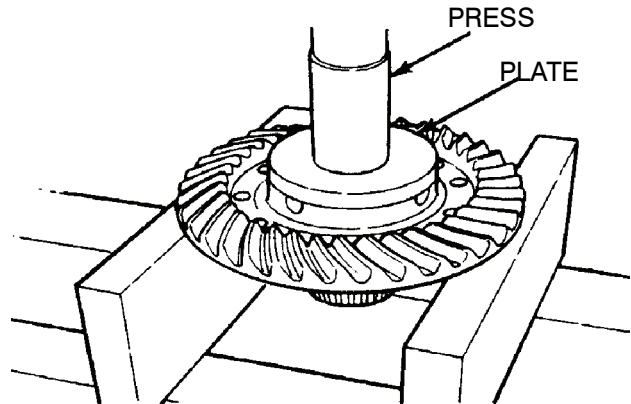

Figure 35. Removing Case Half From Ring Gear.
- (4) If the ring gear needs to be replaced, see the following procedure.
- (b) Put the ring gear and case assembly on a press so that the teeth of the gear are toward you. Put supports under the gear. Put a sleeve or a flat metal plate on top of the case. Press the main differential case from the ring gear. Figure 35.